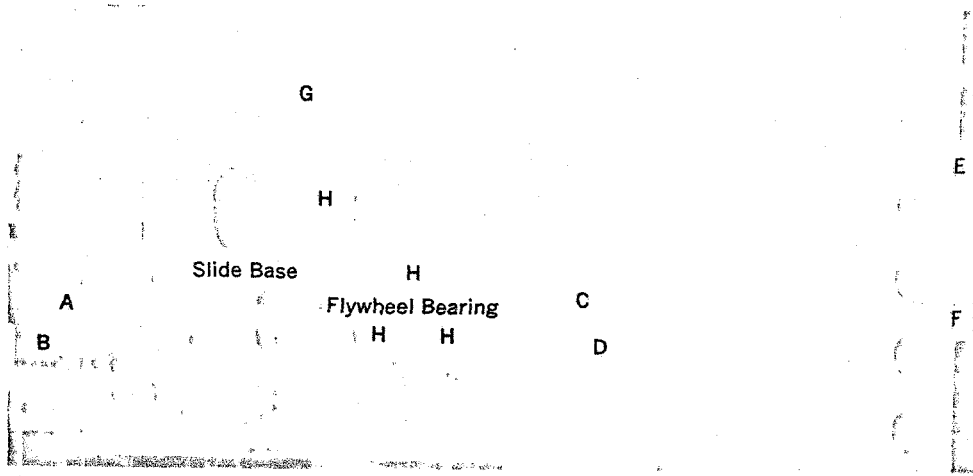

Fig. 4-2
(From A to F in Fig. 4-2).
(Detach E Type washer ① and spring ② in Fig. 4-2).
(Remove 3) of screws, I in Fig. 4-2).